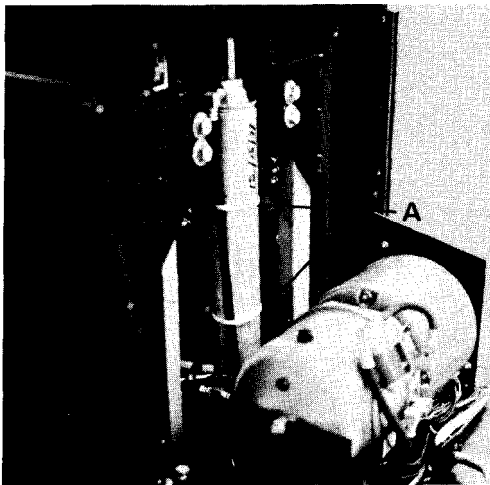

Fig. 19
- 2) Remove "X" brace by removing (4) bolts with a 9/16" wrench.
- 3) Remove large nylon ties, Item A, Fig. 19 from cylinder.
- 9) Install the large nylon ties, Item A, Fig. 19 on the cylinder.